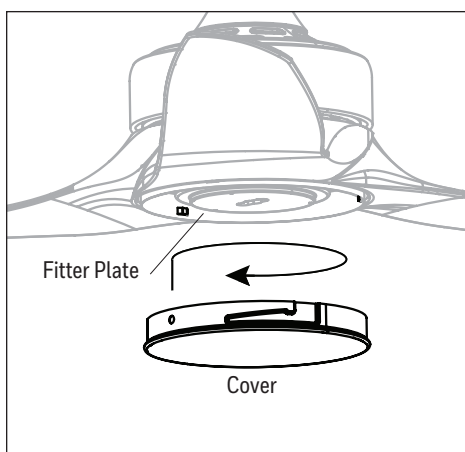

Figure 5.6
- CAUTION:** Avoid cross-threading the cover during installation. Improper installation could cause the cover to be difficult to remove (Figure 5.6).